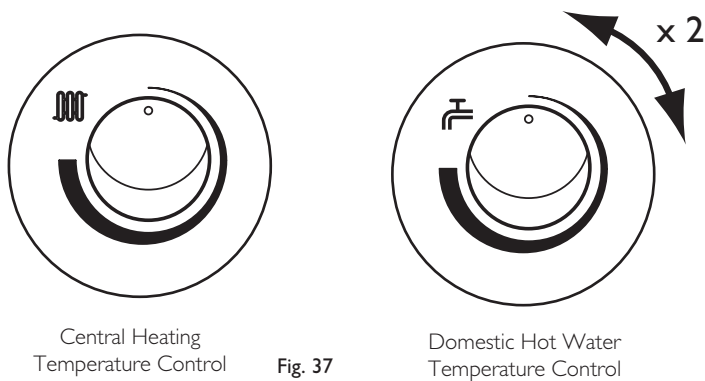

Fig. 37
3. Turn both temperature control knobs fully anticlockwise, then quickly turn the DHW temperature knob  $\frac{1}{4}$  clockwise twice and back fully anticlockwise (Fig. 37).